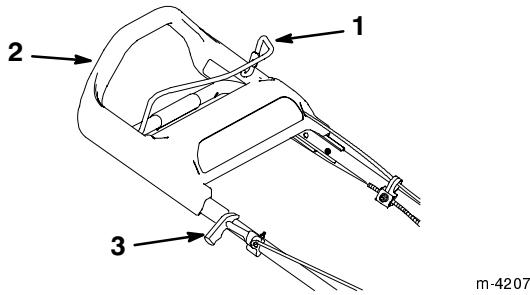

Figure 7
The starter handle and the blade control bail are on the upper handle as shown in Figure 7.
3. Hold the blade control bail against the upper handle (Fig. 7).
4. Pull the starter handle lightly until you feel resistance, then pull it sharply (Fig. 7). Allow the rope to return to the handle slowly.